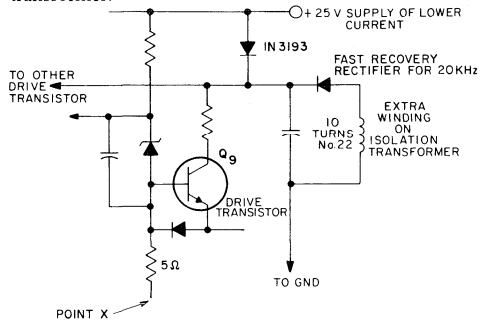

Fig. 11 - Use of a separate isolation-transformer winding to supply the base-drive transistors.
**Low-Voltage Supplies.** Different voltages and different types of regulation can be used in the low-voltage supplies. One alternative, shown in Fig. 11, is the use of an extra winding on the isolation transformer to supply the base-drive transistors. This circuit reduces the cost of smoothing capacitor C2 in Fig. 2, and reduces the size of the 60-Hz transformer.